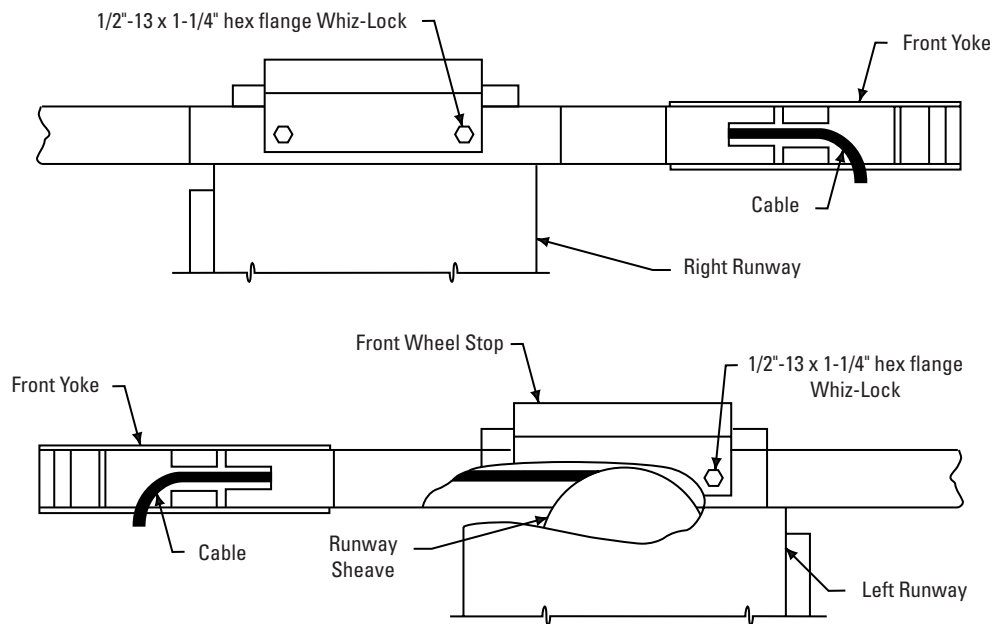

Fig. 4
- C. Position front and rear yokes at respective ends of runway, Fig. 1. The opening in the side of the yokes should be lined up with the cable sheaves in the runway ends. Feed cable ends through yoke openings, Fig. 4. Do not assemble sheaves in yoke ends at this time.
With the openings in the yoke tube side lined up with the left runway ends, align the two (2) holes in the top of the front yoke tube with the slots in the runway end plates and the holes in the front wheel stops. Bolt runway to the yoke using four 1/2" x 1-1/4" hex flange bolts, Fig. 4.